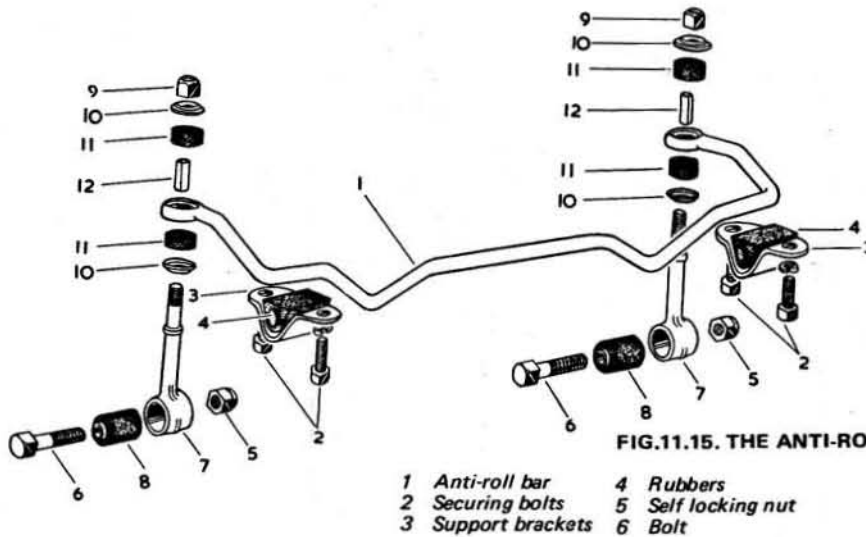

FIG.11.15. THE ANTI-ROLL BAR ASSEMBLY
9 Anti-roll bar - removal, refitting and replacement of rubber bushes (Fig.11.15)
6 To replace the bracket rubbers (item 4 in Fig.11.15). Raise the front of the car and support it firmly. Remove the two bolts securing each bracket, remove the brackets and pull down on the
7 To replace the upper and lower cup washers and rubbers (items 10 and 11 in Fig.11.15) first remove the self locking nut at the top of each link arm and then push upwards on the bar to clear the link arm. If you cannot get sufficient movement of the bar to clear the link arm, slacken the bolts to the brackets on the chassis side members. The cup washers and rubbers can be lifted off when the bar is clear of the link arm new items can be fitted but do not overlook replacement of the spacer and the necessity for the full weight of the car to be taken on the wheels before tightening the bracket bolts.